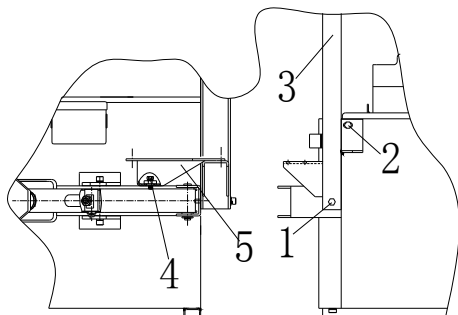
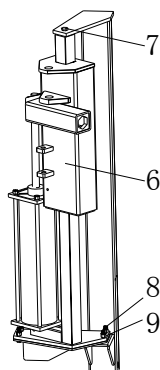

Fig 10
Fig 11
- 2) Install the column 3 with screw 1 and 2; install the support 5 of the auxiliary arm with screw 4; (Fig 10)
- 3) Install the help arm 6 with nut 7 and screw 9, then tighten 4, 7, 8, 9 (Fig 10 , Fig 11) ;